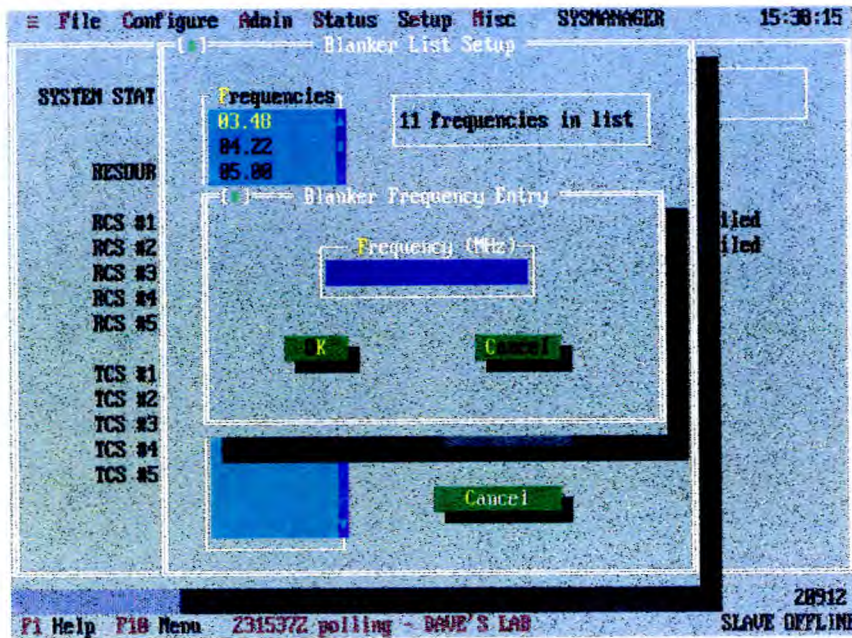

Fig 28
9.5 **INSERT** : This obtains the screen "Blanker Frequency Entry" (Fig 28). Place the cursor in the FREQUENCY (MHz) field and enter a new frequency (to 10 KHz resolution). Selecting OK accepts the input; CANCEL aborts.